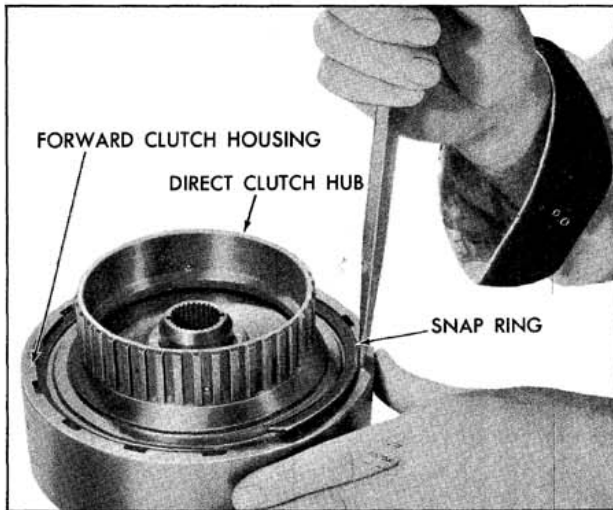

Fig. 6-125 Removing Snap Ring
1. Place forward clutch and turbine shaft in hole in bench, or Holding Fixture J-6116, and remove the forward clutch housing to direct clutch hub snap ring. (Fig. 6-125)